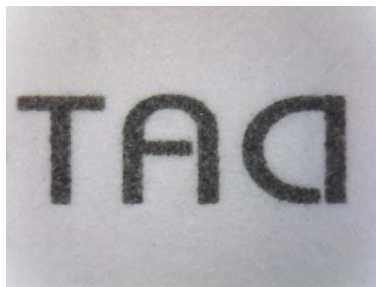

Fig.3-20 Video image do horizontal flip
- ⊕ Horizontal Flip “”: The video image left and right mirror 180 degree flip which is horizontal flip shown in Fig.3-20.